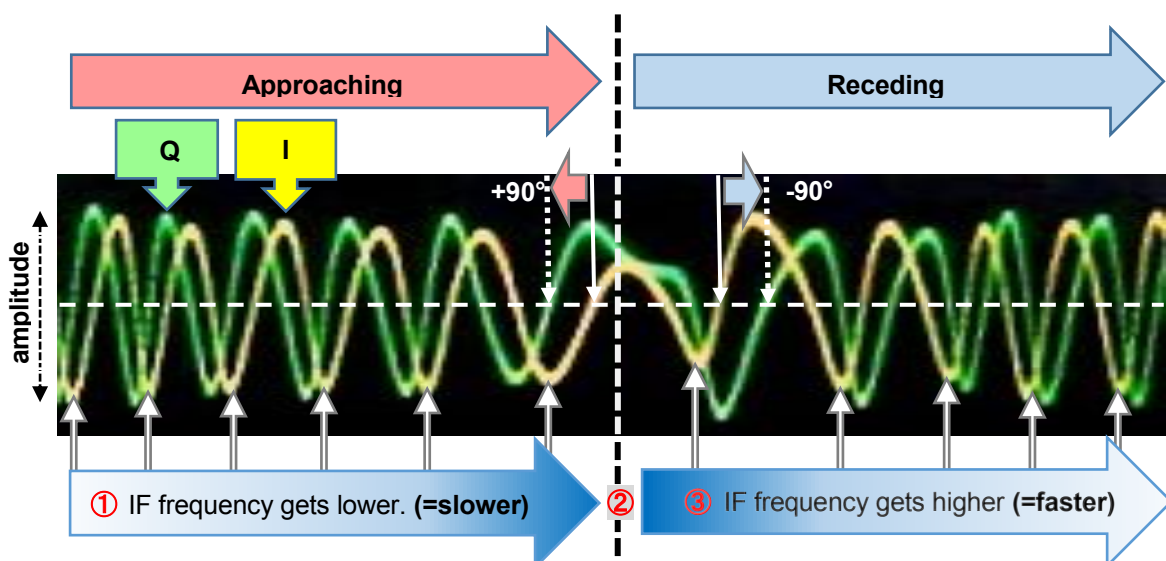

Fig.7 Approaching/receding judgement
As mentioned above, it is possible to judge if the object is approaching or receding. Fig.7 shows the waveform observed as I-signal and Q-signal on Oscilloscope, when there is the object with a movement back-and-forth in front of sensor module, ie hands move back-and-forth.
In the measurement above Fig.7, since the distance is 50cm of short range, the waveform is the IF1(I)/IF2(Q) directly observed without the external amplifier.